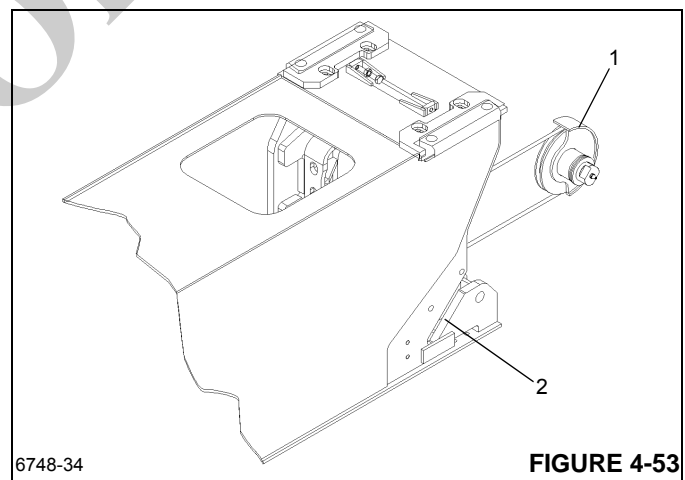

FIGURE 4-53
16. Reeve the fly retract cable around the fly retract cable sheave (Figure 4-53, 1) and install in the angled slots (Figure 4-53, 2) on each side of the Outer Mid section.